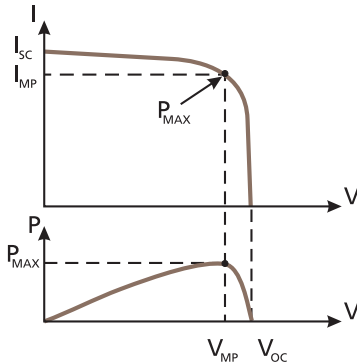

Fig. 2.1. Current (I), Voltage (V) and Power (P) Curves
A Current (I) versus Voltage (V) Curve of a Solar Panel (“I-V” Curve) shows the possible combinations of its current and Voltage outputs. A typical I-V curve for a 12V Panel is shown in Fig. 2.1.